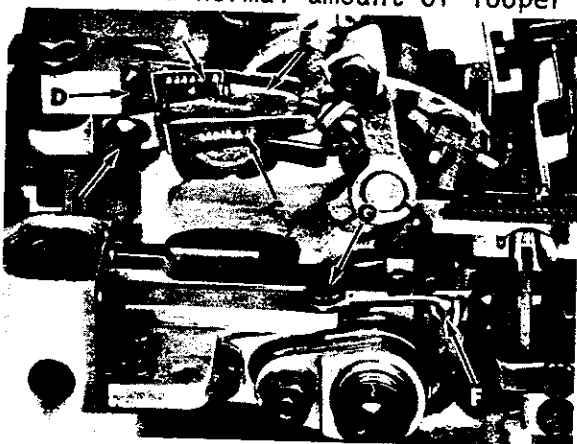

Fig. 25
When a normal amount of looper thread is drawn, upper and lower looper threads will be a little slack when needle(s) is at highest position (lower looper thread only for Styles 39500 XQJ, XRN, XSD, CXQJ, CXRN, CXSD). The auxiliary upper looper thread guide (A, Fig. 25) should be centered in its adjusting slot and set slightly above a horizontal position. Loosen screw (B, Fig. 25). Center lower looper thread eyelet (C) in its adjusting slot and set eyelet in a horizontal position.